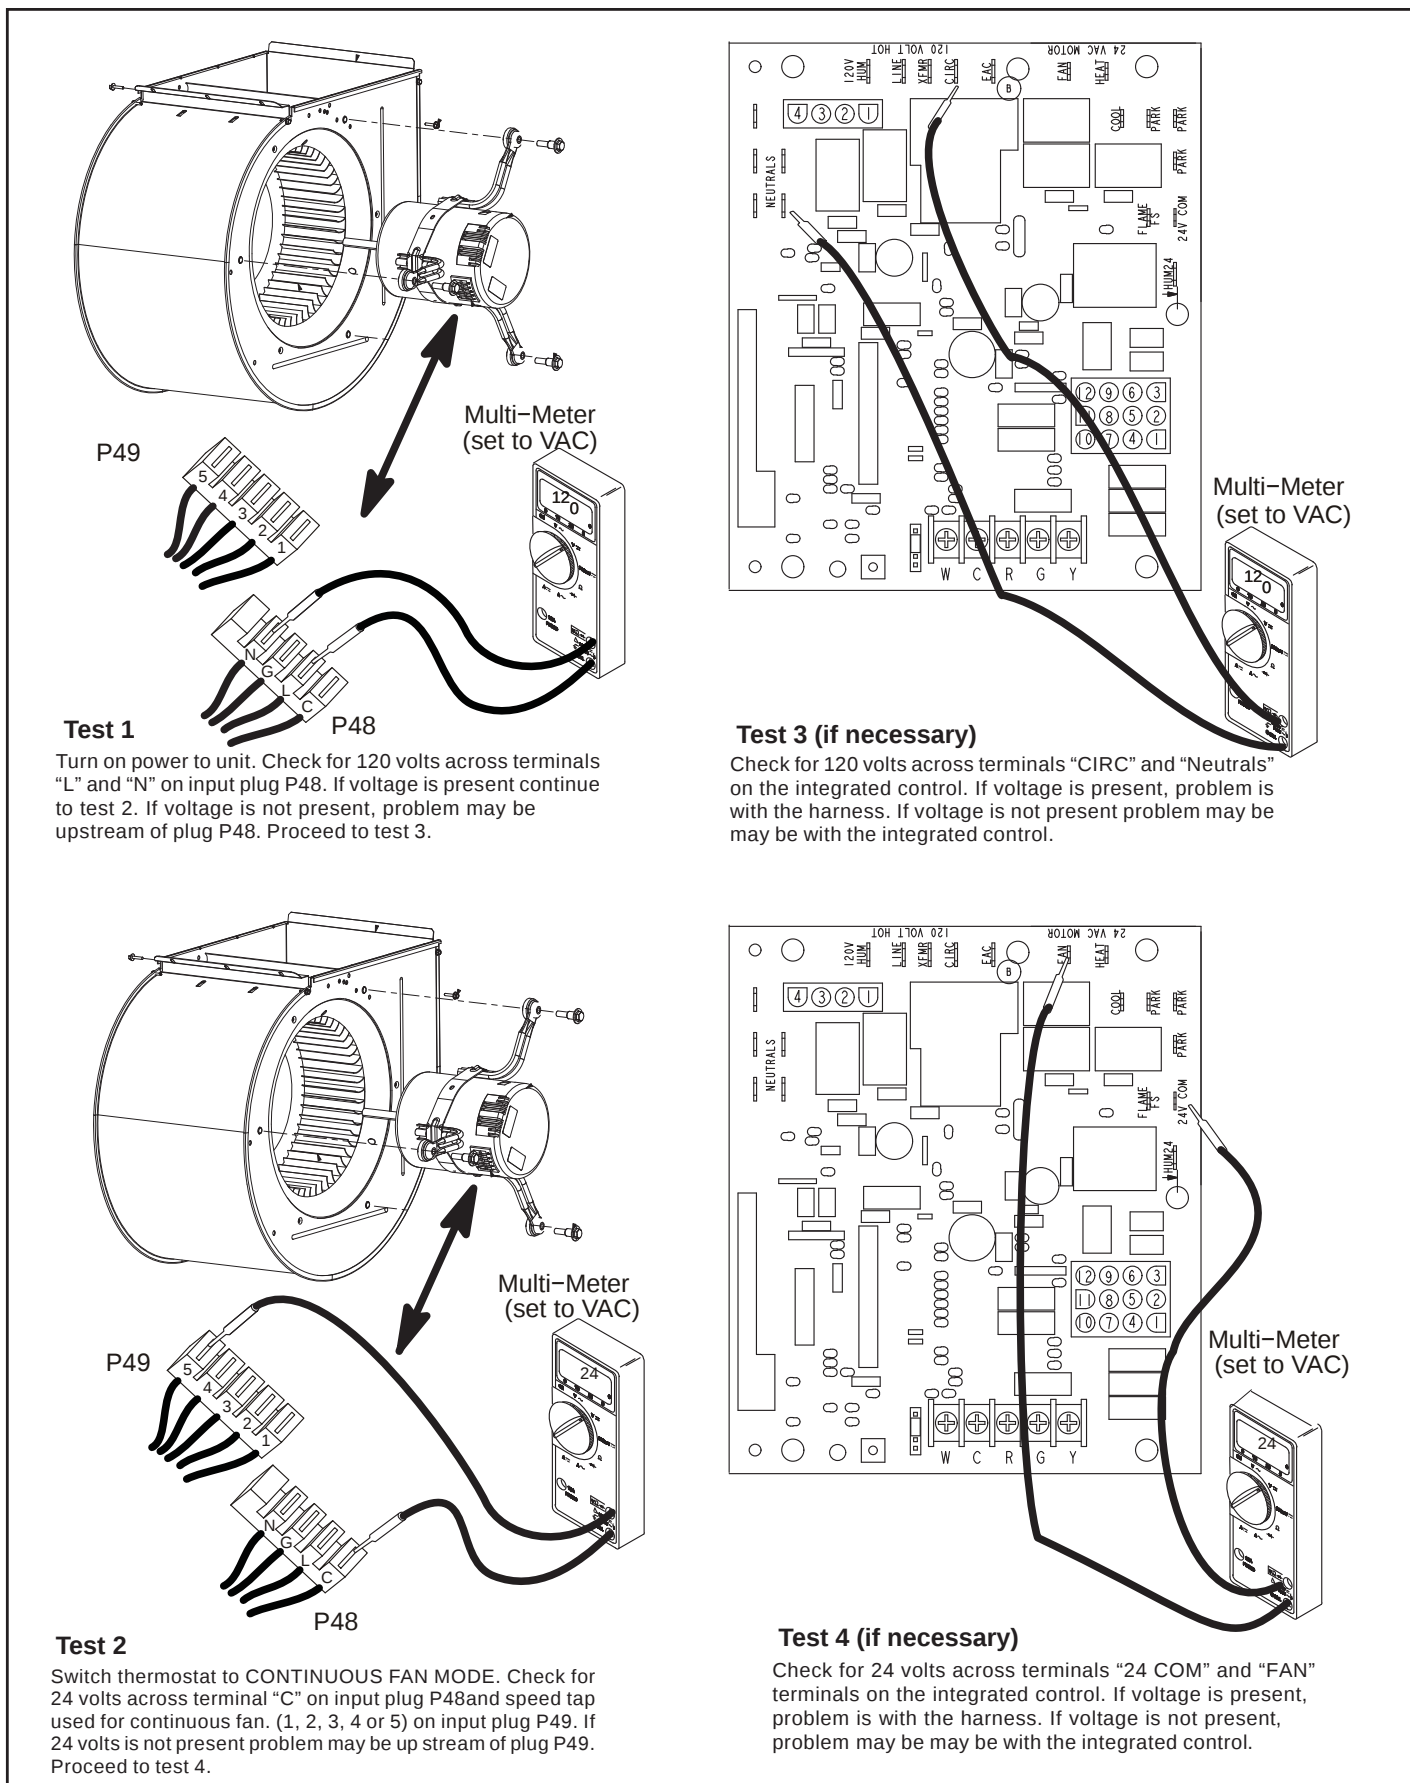

Figure 16.
2. Remove input plugs P48 and P49 from motor. See Figure 16 for troubleshooting procedure.